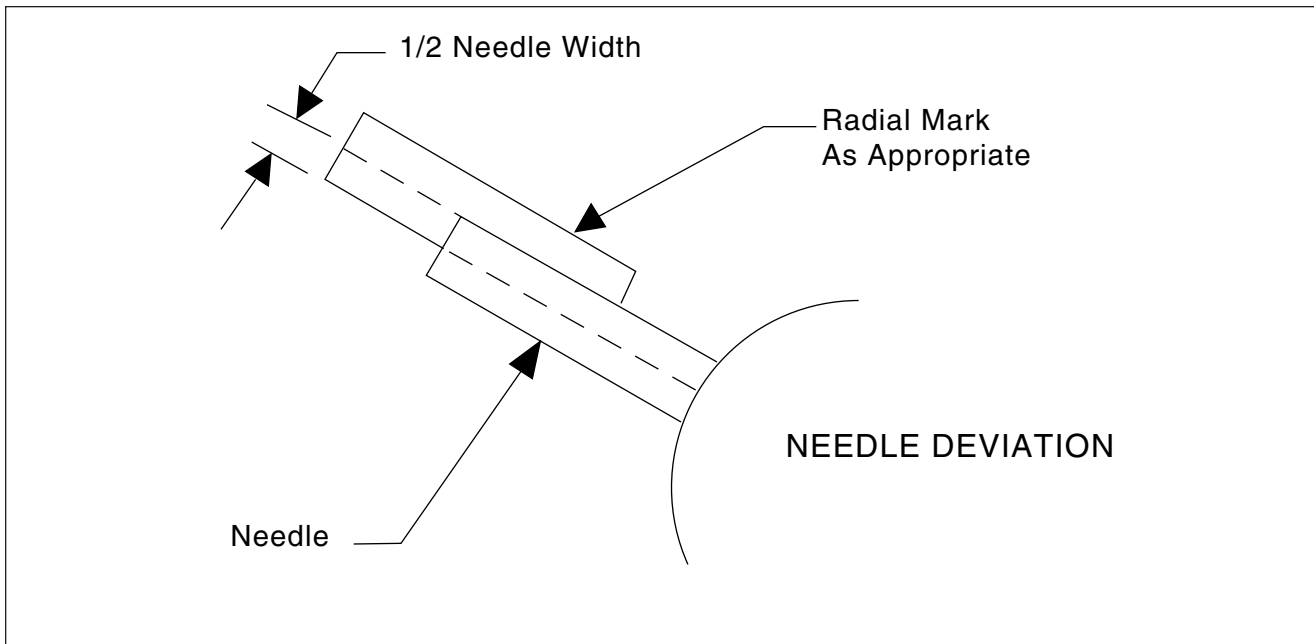
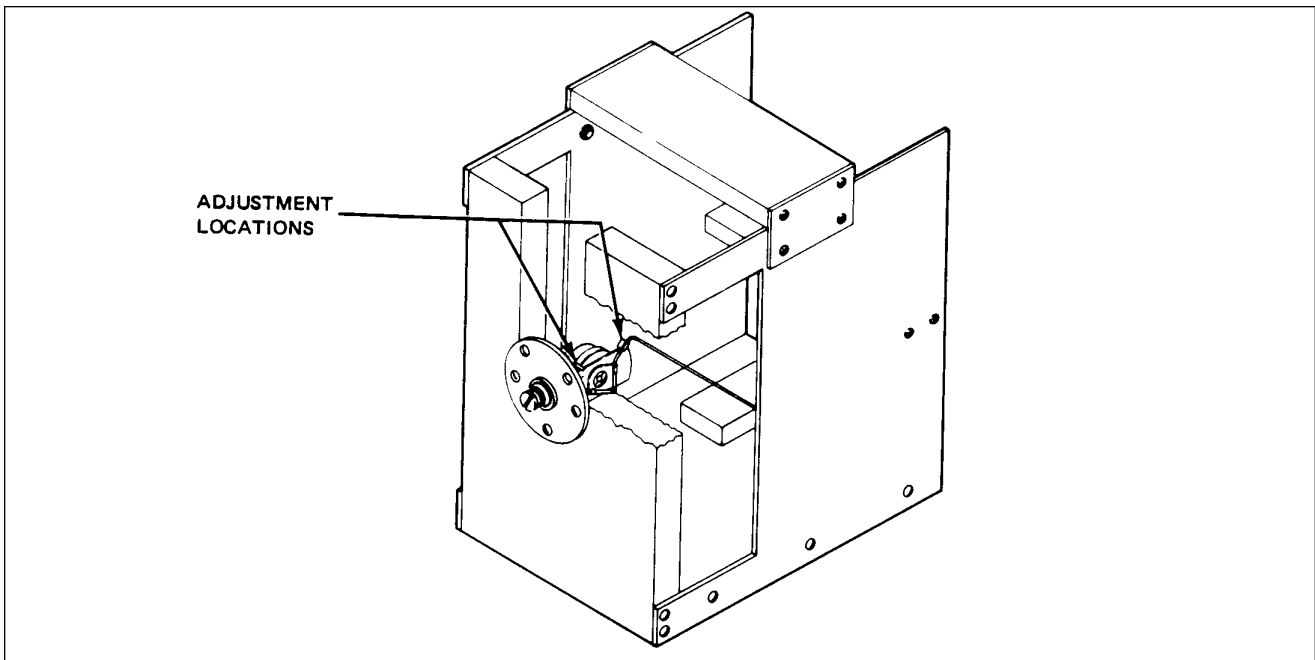

Figure 28-9. Archer III Fuel Quantity Needle Deviation
Figure 28-10. Fuel Quantity Transmitter Checking Jig
1. Archer II 14 Vdc Fuel Quantity Transmitter Check. (Piper P/N 486 520) (Refer to Figure 28-9.)
- (1) Fasten unit to a fabricated checking jig with washer and nuts. (Fabricate jig per Figure 28-10 dimensions.)
- (2) Check with the float arm down against mechanical stop on transmitter, the float is just touching base of jig. (Float may be to 0.18 inch above base.) If float does not touch the base or float arm is not against bottom stop, adjust float assembly arm stop by bending it per Figure 28-9. The entire surface of float must be horizontal with the jig base.
- (1) Fasten unit to a fabricated checking jig with washer and nuts as shown in Figure 28-9. (Fabricate jig per Figure 28-10 dimensions.)
- (2) Check with the float just touching the top of a 0.27 inch spacer back, the resistance of the sending unit is 3 ohms, ± 0.5 ohm. If the resistance of the sending unit is not in this range, adjust arm of the float assembly by *gently* bending it as shown in Figure 28-9. The entire float *must* be *kept horizontal* to the *base* of the fixture.